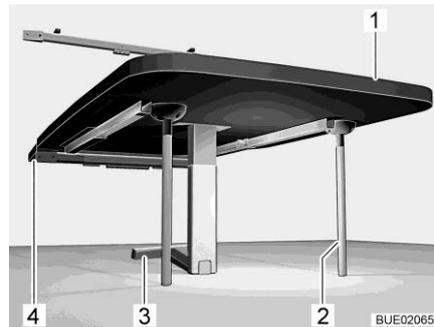

Fig. 135 Suspension table as bed foundation
- Lift the front of the table top (Fig. 135,1).
- Fold the lower part of the fold-out leg (Fig. 135,3) by 90°.
- Insert two additional support legs (Fig. 135,2) on the table top's bottom side.
- Insert and lock the table in the lower retainer (Fig. 135,4).